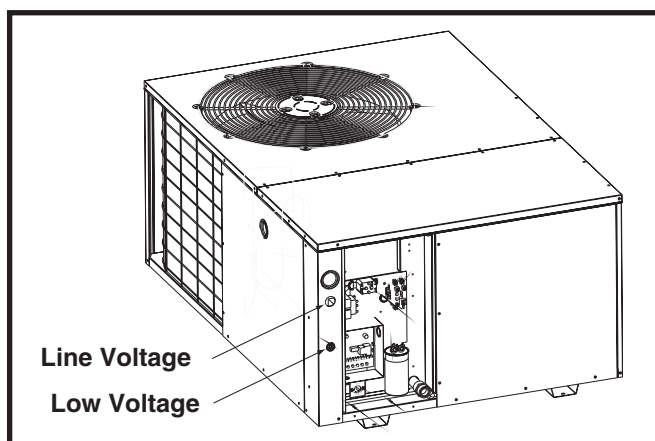

Figure 5. Power Entry Locations
- Provide power supply for the unit in accordance with the unit wiring diagram, and the unit rating plate. Connect the line-voltage leads to the terminals on the contactor inside the control compartment. Extend leads through power wiring hole. Connect **L1** & **L2** directly to the contactor. See Figure 5 \(page 6\) for power entry locations.
- The low voltage wires must be properly connected. Route 24V control wires through the sealing grommet near the power entrance. See Figure 5 \(page 6\). Connect the control wires to the defrost board and blower relay wire. Recommended wire gauge and wire lengths for typical thermostat connections are listed in Table 2.